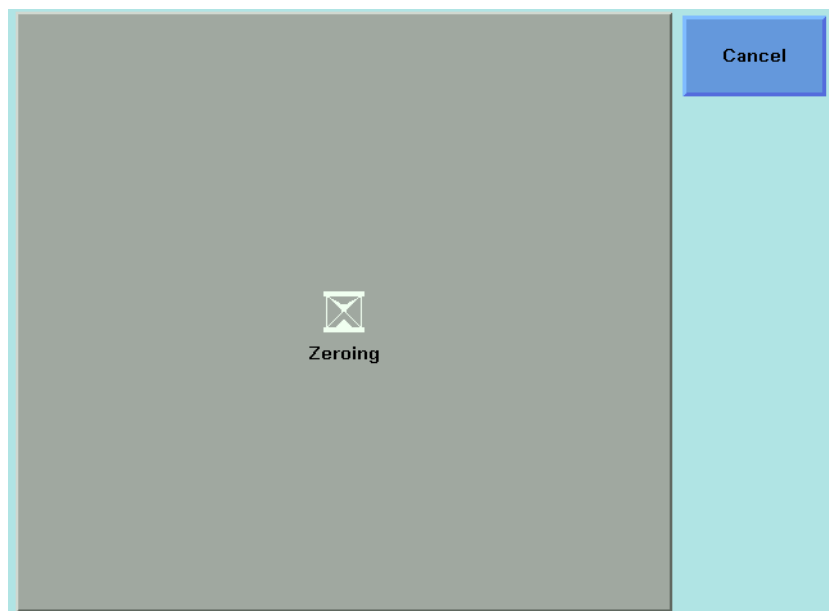

Figure 45 Zeroing Screen
- 3 Move to the *<Zero>* option to zero the current power measurement channel or the *<Zero All>* option to zero all power measurement channels. You will see the screen shown in Figure 45 , this appears for around 30 seconds while zeroing is performed.